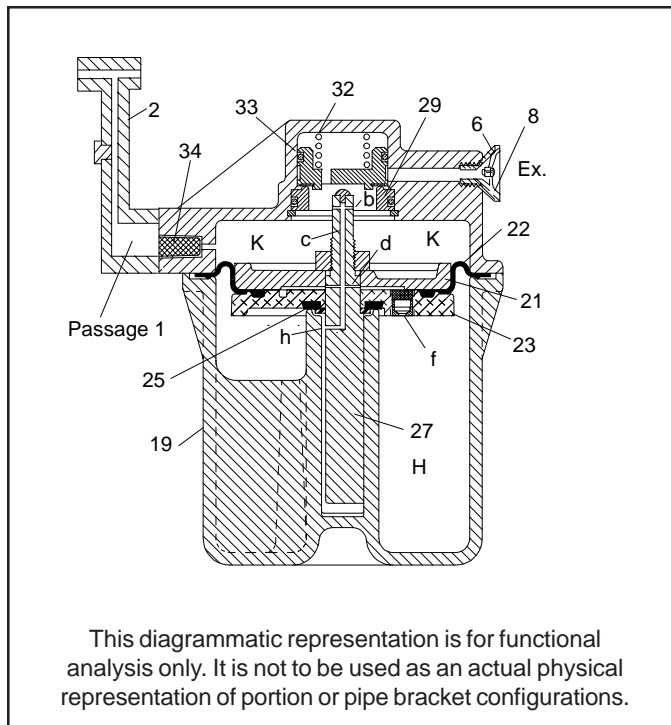

Figure 1 - Diagrammatic View
2.0 OPERATION (Refer to Figure 1)